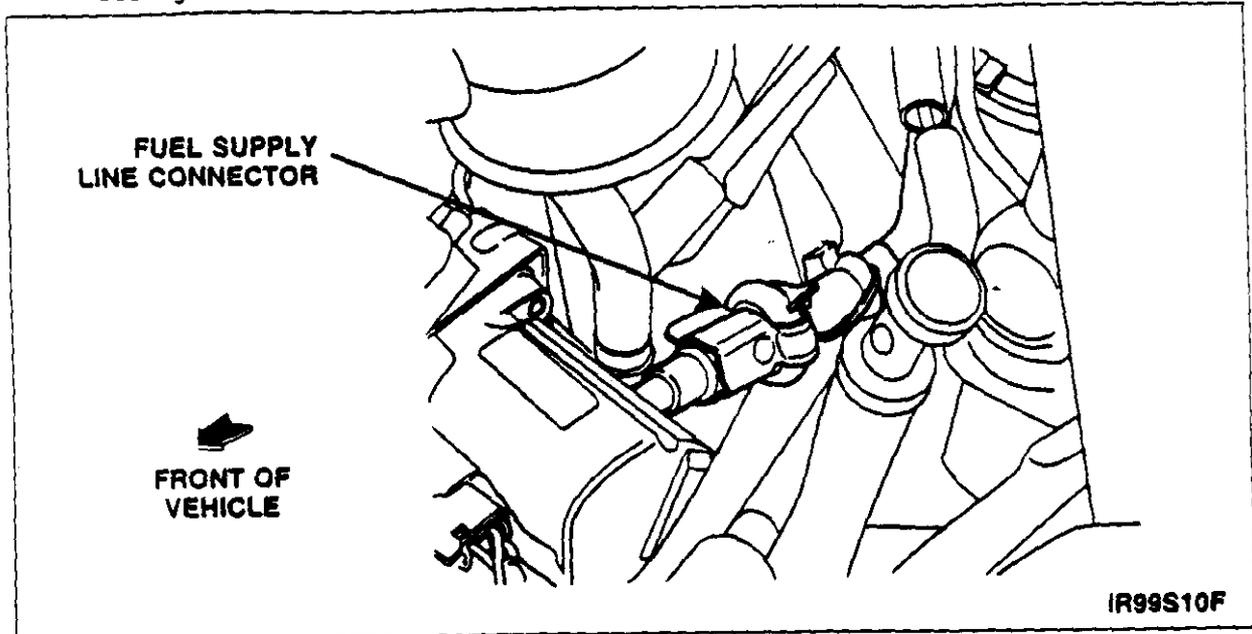

FIGURE 6
- Using Disconnect Tool D87L-9280-B, disconnect the fuel supply line from the fuel supply manifold. See Figure 6.